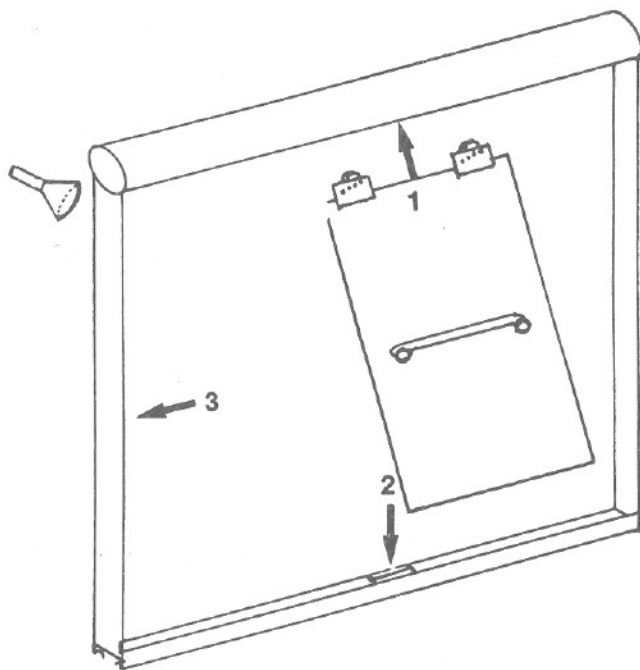

FIGURE 8
8. **INSTALLATION OF DOORS:** Always install the *inside door first* and with the towel bar facing toward the tub and insert roller into the header section. Lower panel so that the rollers rest on the groove of the header and the bottom of the panel drops into the bottom track guide. Slide inside door toward the shower head. With towel bars facing you, repeat the procedure with the outside door, only this time slide panel to the opposite side of the shower head. SEE FIGURE 8